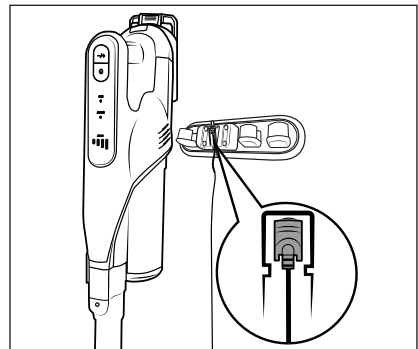

Fig. 6
- ◆ Place the vacuum cleaner in the wall bracket **18** from above so that the barrel plug **11** slips into the charging socket **3** on the bottom of the appliance. The battery indicator **27** starts flashing and the charging process starts (see Fig. 6 and 7).